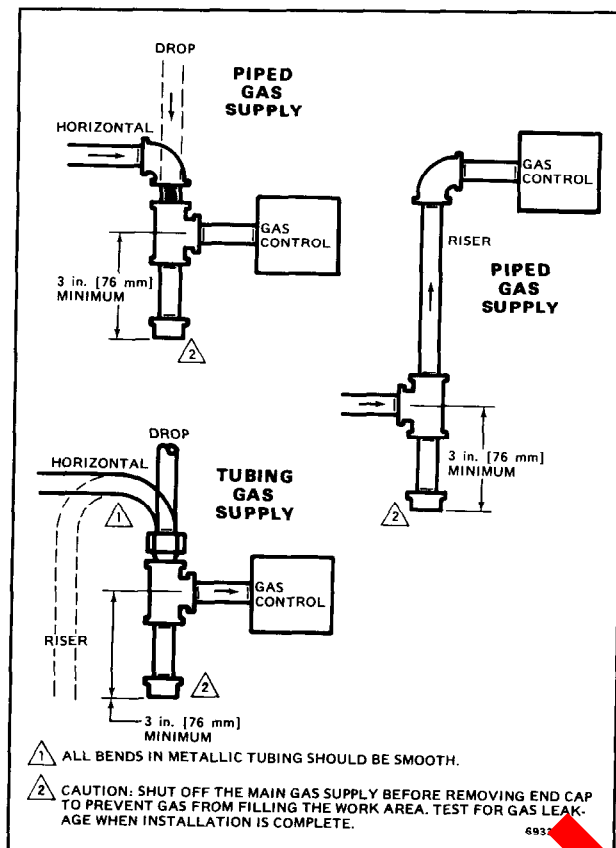

FIG. 10—INSTALL SEDIMENT TRAP.
3. Install a sediment trap in the gas supply line. Refer to Fig. 10.